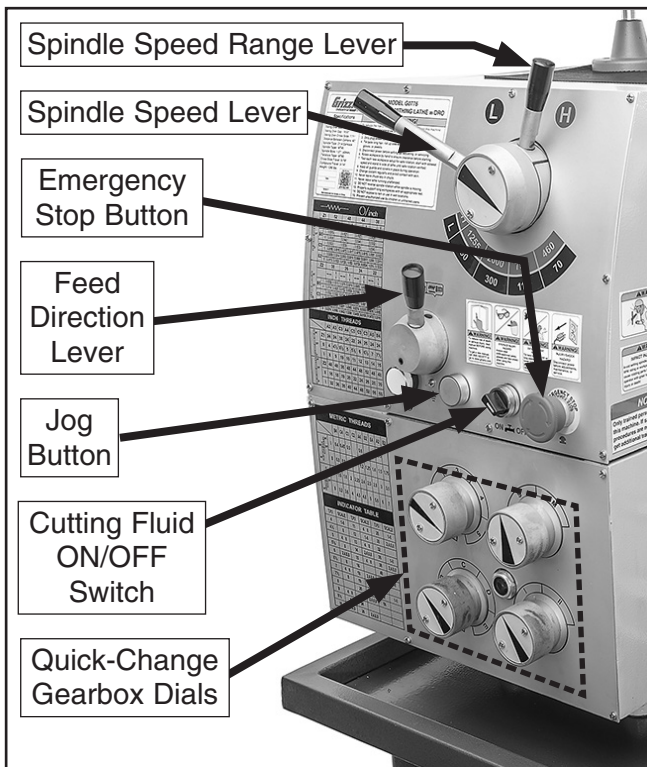

Figure 23. Headstock controls.
8. Turn the main power switch ON and reset the EMERGENCY STOP button by twisting it clockwise until it pops out. The power lamp on the control panel should illuminate (see **Figure 23**).
9. Move feed direction lever (see **Figure 23**) to middle position. This will disengage spindle.
Note: As long as the feed direction lever shown in **Figure 23** is disengaged, no torque will be transmitted to the quick-change gearbox or any other gear-driven component. As a result, the quick change gearbox dials shown in **Figure 23** can be left engaged or disengaged for the test run.